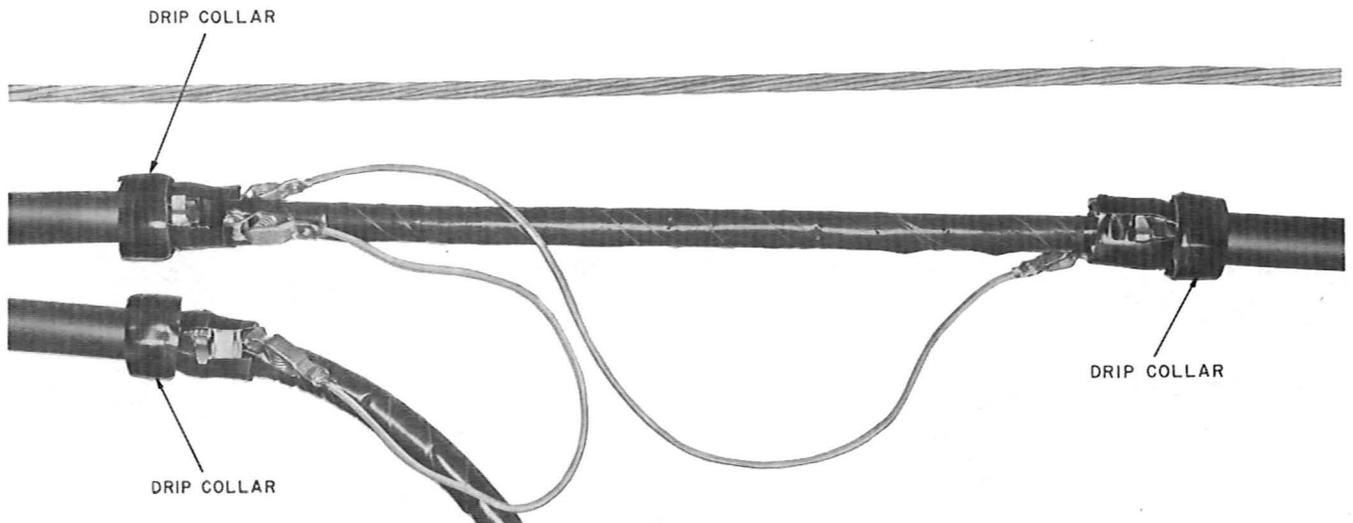

Fig. 32—Drip Collars Installed
6.07 Using B Sealing Tape, form drip collars on the cables as shown in Fig. 32.